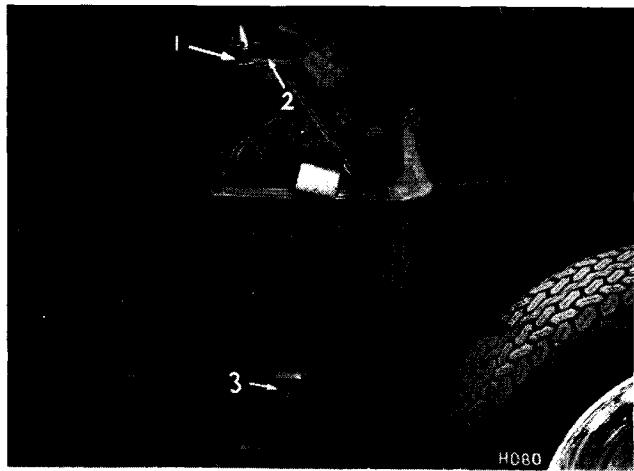
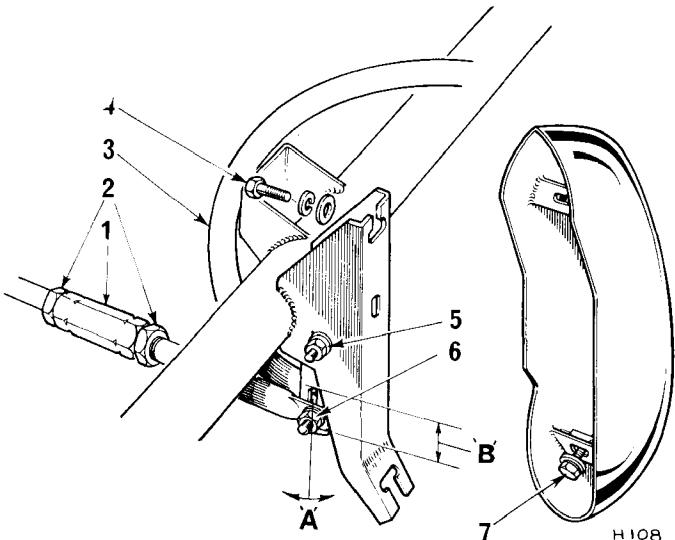
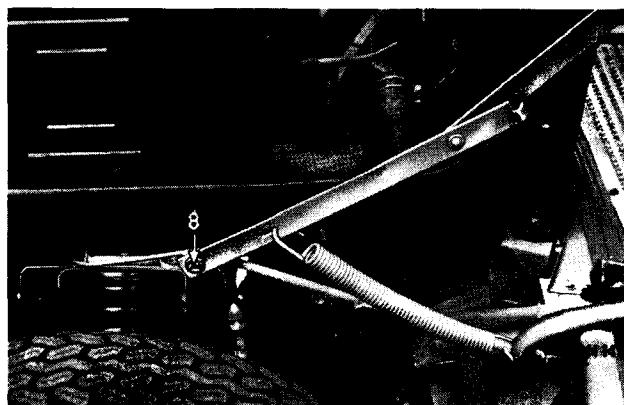

Fig. 8. Bonnet height adjusters
Fig. 9. Bonnet adjustment points
Fig. 10. Bonnet stay attachment
Remove both overriders by unscrewing items (4) and (7) (Fig. 9), take out bolt (8) (Fig. 10) and support the bonnet as the hinge bolts (5) and (6) (Fig. 9) are withdrawn.
Height Adjustment (Fig. 8)
If slight adjustment is required to achieve a parallel clearance of $\frac{1}{16}$ " (5 mm.) between the bonnet and scuttle, slacken the locknuts (2) (Fig. 9) and turn the sleeve nut (1) (Fig. 9) on either side, as necessary.
Lift or lower the front of the bonnet until parallel clearance between the bonnet and door is achieved. During this movement, the rear of the bonnet will pivot on the bracket shown arrowed on (2) (Fig. 8). Tighten the link bolts (5) and (6) (Fig. 9).
Overriders (Fig. 9)
Open the bonnet and referring to Fig. 9 (page 5-205V), slacken the upper bolt (4), remove the lower bolt (7) and remove the overrider.